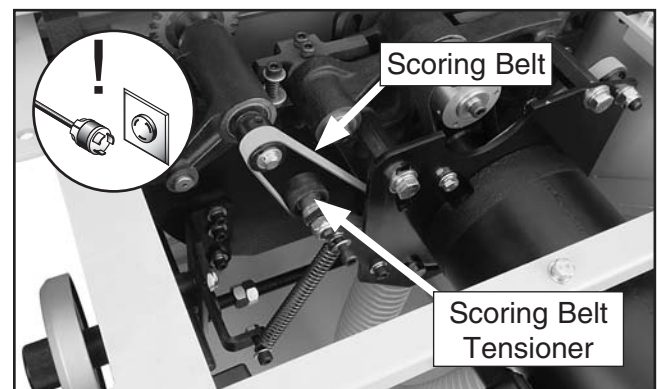

Figure 114. Replacing the scoring motor belt.
4. Pull the tensioner away from the scoring belt (**Figure 114**) to relieve belt tension and remove the scoring belt from the pulleys.